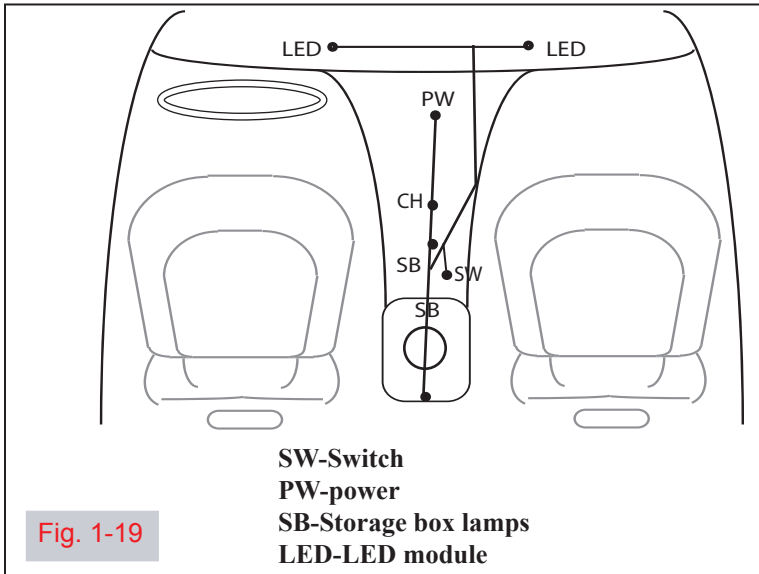

Fig. 1-19
- a. Lay out harness as shown and identify connectors. (Fig.1-19)